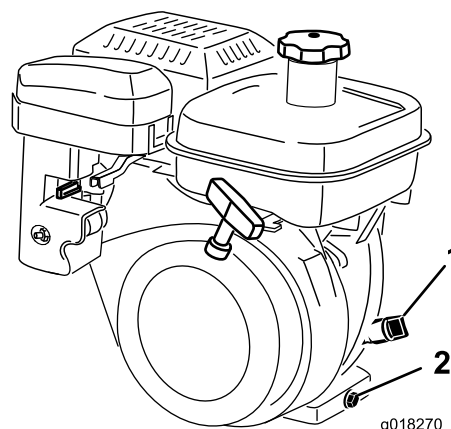

Figure 34
3. Clean around the oil-level gauge (Figure 34)
4. Remove the oil-level gauge by rotating it counterclockwise (Figure 34).
2. At the rear of the machine, place a drain pan under the drain plug (Figure 34). Loosen the drain plug.